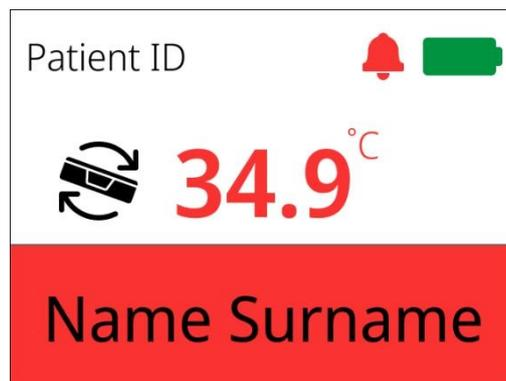

Figure 15.38 Multiple alarm indication on the undocked chamber’s display (tilt/temperature alarms active)
1. **Undocked** – the alarm icon is present next to the temperature value, where the bottom bar is coloured in red (Figure 15.38).